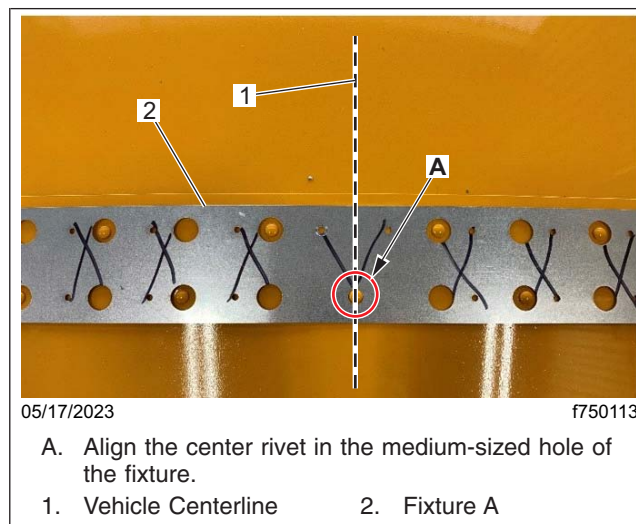

Fig. 9, Aligning the Center Rivet, Fixture A
12. The center rivet should fit securely in the medium-sized hole, located near the center of each fixture, as shown in Fig. 9.